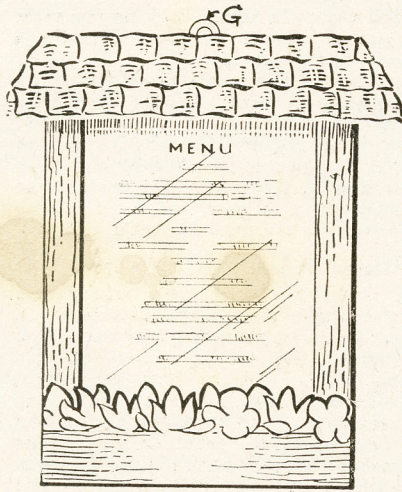

Fig. 1—Completed case with hanger
The 'window box' is, of course, just a flat cut-out plywood shape (K). Fig. 1 shows a rather 'free'